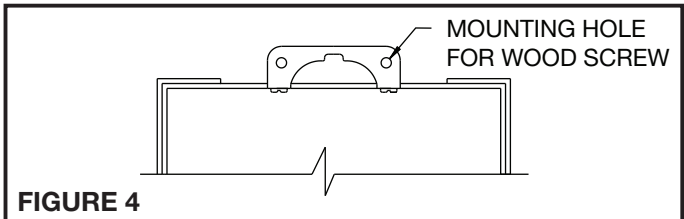

FIGURE 4
2. Remove closure plate and slotted brackets from box. Contained inside are two mounting brackets. Fasten brackets to inside walls of box with the #8-32 x 5/32 lg. screws provided. Top leg of bracket should extend outward from the box to rest on floor edge. See figure 4.